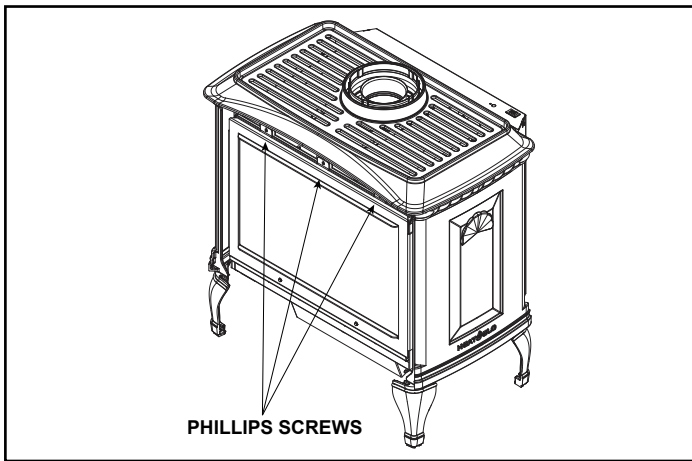

Figure 6.11 Remove Glass Frame
11. Using a #2 Phillips screwdriver, remove the three screws on the front glass assembly and take the glass assembly off the appliance. See Figure 6.11.